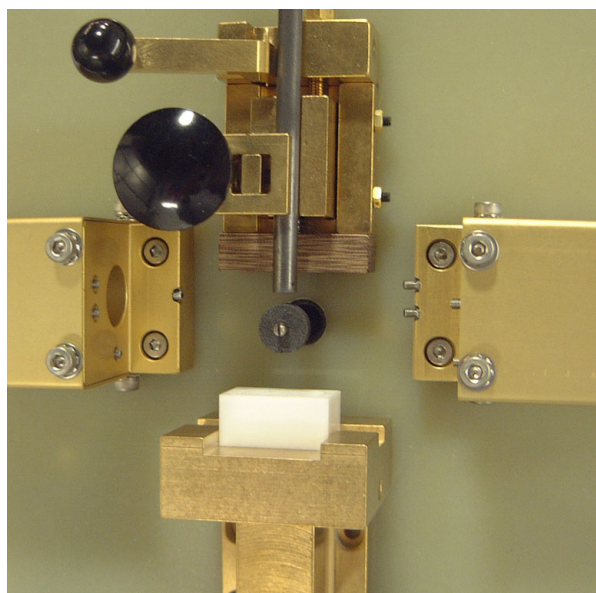

Figure 1-5b, Sample Stand with Reusable Sample Holder in Place
The sample table also has a special cutout and groove to hold the reusable sample holder in place and to align it properly for the analysis, Figure 1-5b. The reusable sample holder should be cleaned with an ultrasonic bath and an environmentally acceptable cleaning solution.
2. Install and position the reusable sample holder, Figure 1-5b. Raise the sample holder in position and with a disposable pipette, fill